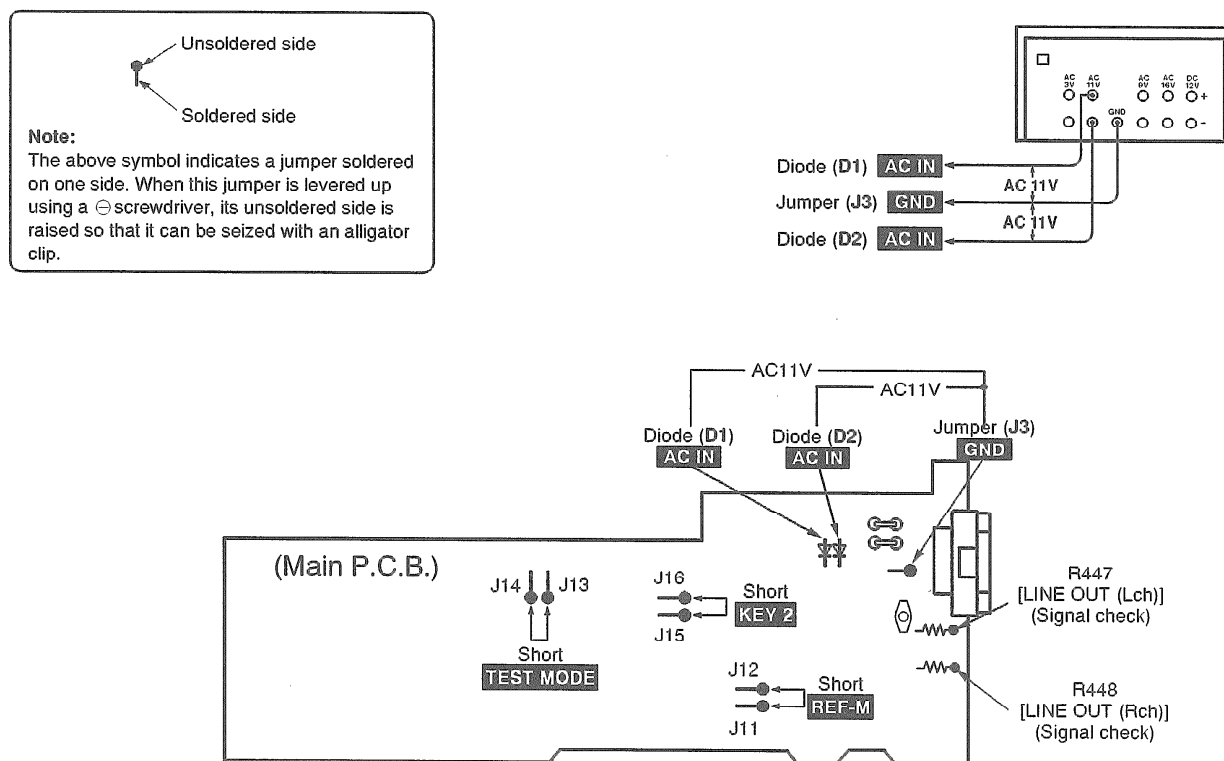

Fig. 1
2. Apply 11V AC power to the section between **AC IN** of the diode D1 and the jumper J3 (**GND**) as well as the section between **AC IN** of the diode D2 and the jumper J3 (**GND**). (Shown in Fig. 1)
Connect the oscilloscope or the speaker with built-in amplifier to the section between LINE OUT (Lch) of the resistor R447 and the GND point of the jumper J3 as well as the section between LINE OUT (Rch) of the resistor R448 and the GND point of the jumper J3 and check if the signals are outputting from this unit. (Shown in Fig. 1)